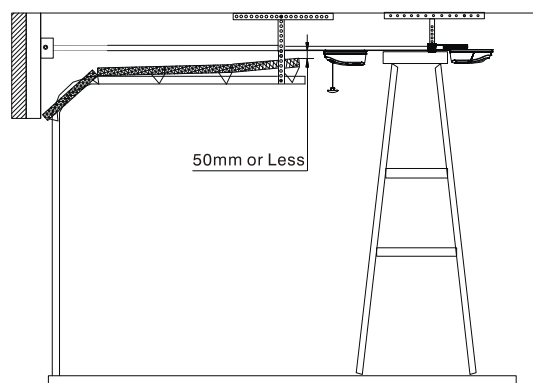

Fig. 7
- b. Mounting the Drive Rail more than 50mm above the Highest Arcing Point of the garage door may cause the Drive Rail to flex excessively. Always ensure that the bottom edge of the Drive Rail is located within 50mm of the top edge of the top panel of the garage door. (Fig.7)
- Raise the Drive Rail assembly off the floor and rest it on a support high enough that the Drive Rail runs parallel to the ground. (Fig.7 depicts typical sectional type garage door installation)
- Slide the Drive Rail Hanger along the drive rail (up to max 600mm from the Control Box) in order to align it with a structural member of the garage. Securely fasten the Drive Rail Hanger to the structural member of the garage using 2 lengths of appropriate hanging material. (Fig.7)
- a. **With the garage door in the fully open position the underside of the Drive Rail should be no more than 50mm above the highest arcing point for its entire length. Mounting the Drive Rail more than 50mm above the Highest Arcing Point of the garage door may cause the Drive Rail to flex excessively. (Fig. 7)**
- b. **With the garage door in the fully open position the underside of the Drive Rail should be no more than 50mm above the highest arcing point for its entire length. Mounting the Drive Rail more than 50mm above the Highest Arcing Point of the garage door may cause the Drive Rail to flex excessively. (Fig. 7)**
- a. With the garage door in the fully open position the underside of the Drive Rail should be no more than 50mm above the highest arcing point for its entire length. Mounting the Drive Rail more than 50mm above the Highest Arcing Point of the garage door may cause the Drive Rail to flex excessively. (Fig. 7)